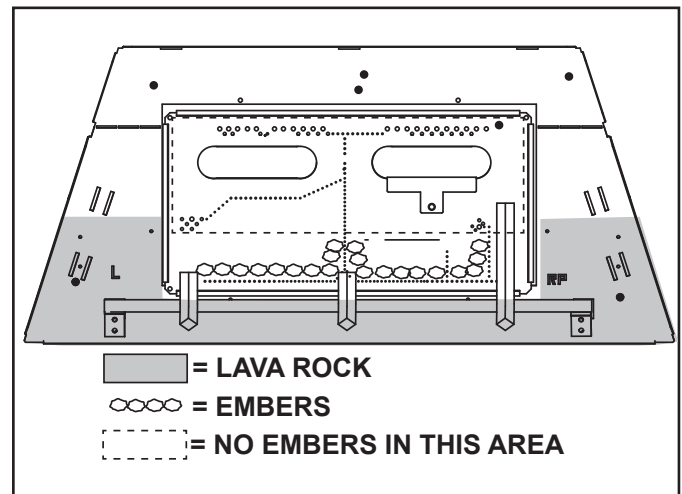

Figure 11.3 Placement of Embers
Place a thin layer of lava rock in the area designated in Figure 11.3.
See Figure 11.3. Place a small amount of 1/2 in. diameter pieces (dime-size) of ember material on the burner top. Be careful not to cover burner ports. It is not necessary to use the entire bag. Save the remaining amount for future use.
- Place dime-size pieces of Glowing Embers® just in front of the port trail, but not on or in between the ports. See Figure 11.3. Care should be taken so that the ports are not covered. Failure to follow this procedure will likely cause lighting and sooting problems.